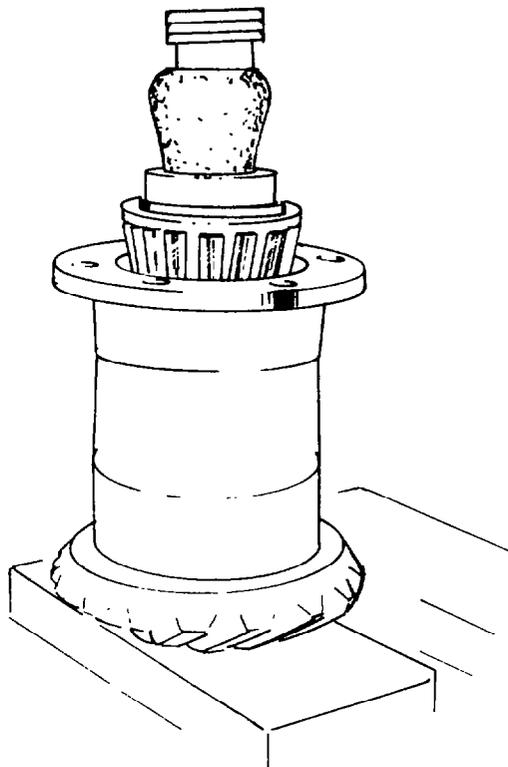

Fig. 321 — Installing Bearing Cone
- j. Position the bearing cone onto the pinion shaft, then press into place with a hydraulic press (see fig. 321).